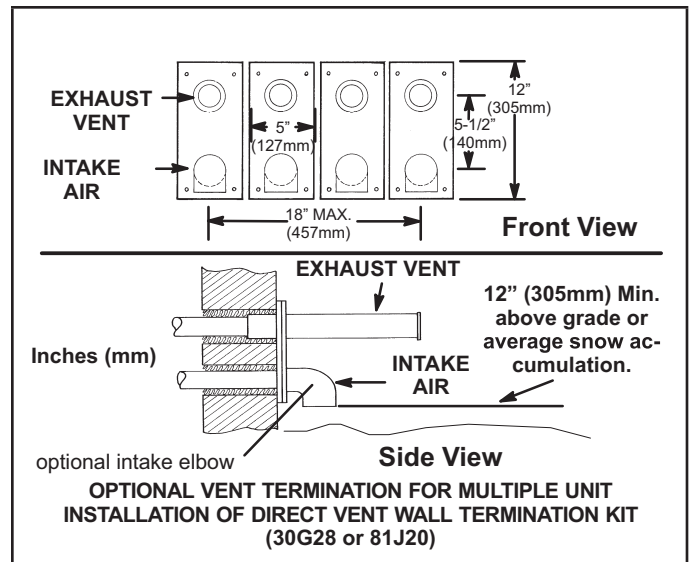

FIGURE 36
- 8 - A multiple furnace installation may use a group of up to four terminations assembled together horizontally, as shown in FIGURE 36.